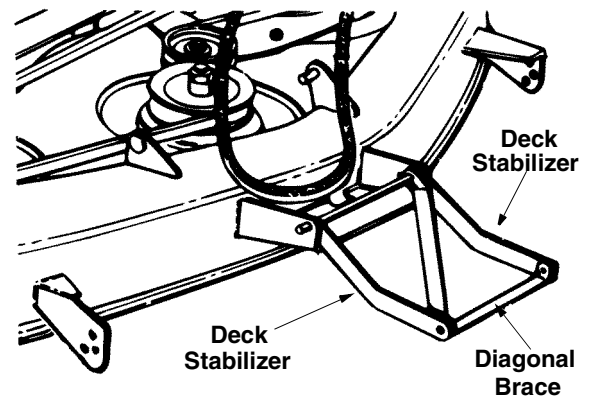

Figure 7
- The two deck stabilizers and the diagonal brace which are attached to the front of the deck are folded back over the deck for shipping purposes. Unfold them at this time. See Figure 7.